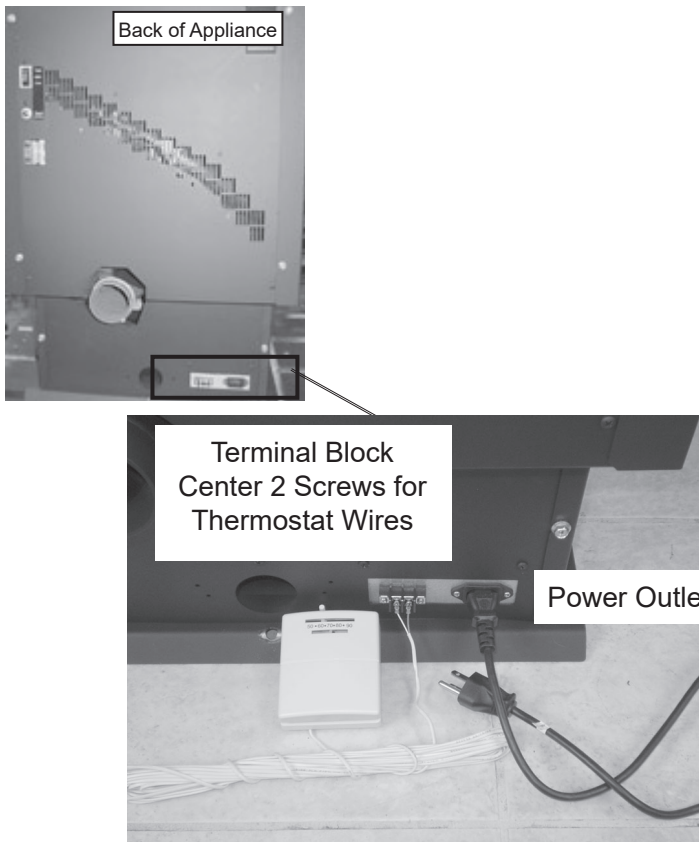

Figure 23.1
3. There is a 4 screw terminal block located on the back lower left corner of the appliance directly above the power cord inlet. The center 2 screws are for the thermostat wires (**Figure 23.1**).